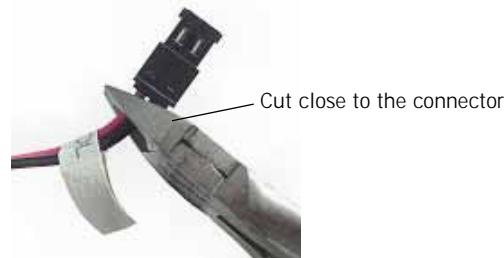

Figure 9-75: Cutting Off Electrical Connector from Main PCB to Motor Cable
1. Use wire cutters to remove electrical connector(s) from the main PCB to motor cable (Figure 9-75). Cut as close to connector as possible, and remove only the connector(s) for the component(s) being replaced. For example, if replacing the crossover solenoid or oxygen valve assembly, only remove the connector on the wire pair labeled "CROSSOVER."